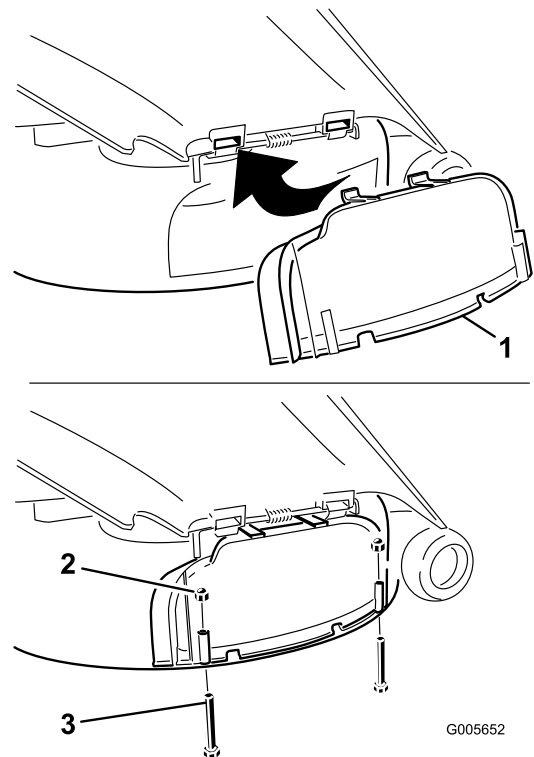

Figure 18
3. Lift the grass deflector and slide the tabs on top of the discharge cover under the grass deflector retaining rod. Rotate the discharge cover down over the opening, and onto the lower lip of the mower (Figure 18).
4. Secure the discharge cover to the lower lip of the mower with two bolts (1/4 x 2-1/2 inches) and two cap nuts (1/4 inch) as shown in Figure 18.